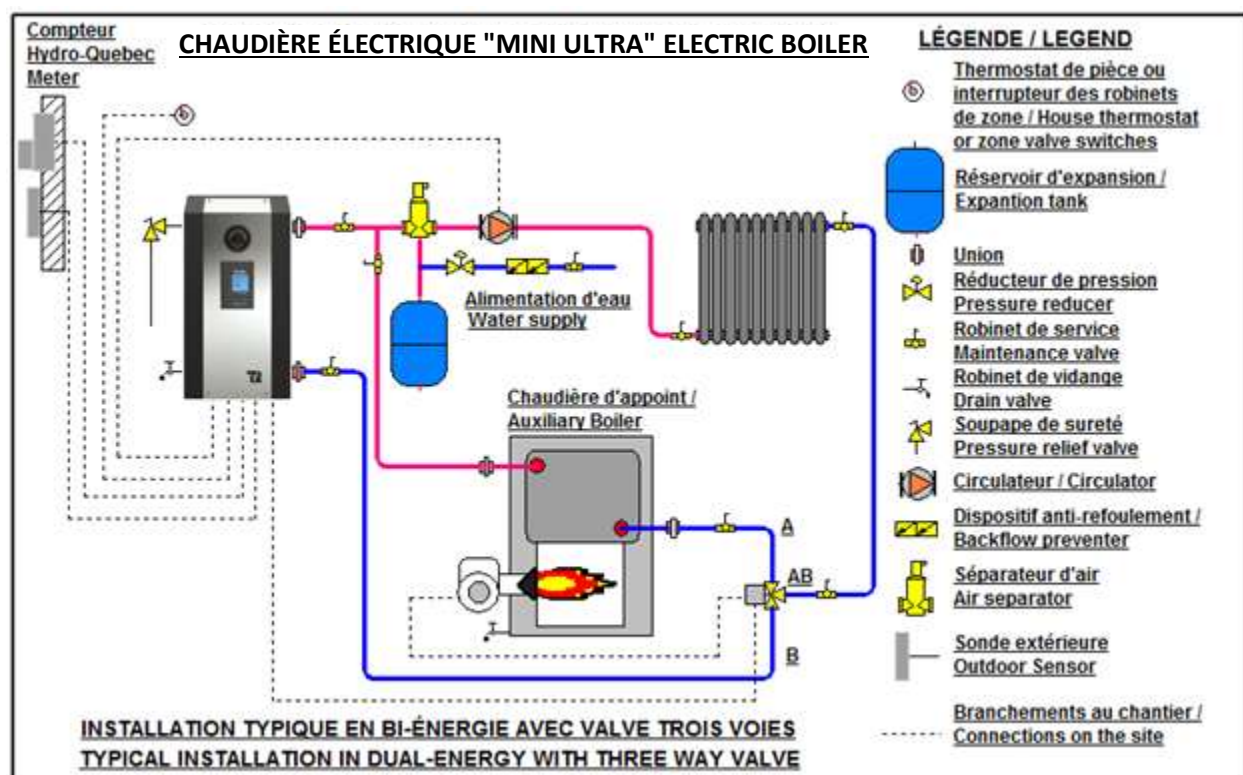

Figure 7 : Typical installation for dual-energy with three-way valve (USA models only)
N.B.: Make sure to select the appropriate port A, B and AB when making the connection of the piping (see fig.7)
- If the piping installation is made as shown on fig.7 without a three-way valve: